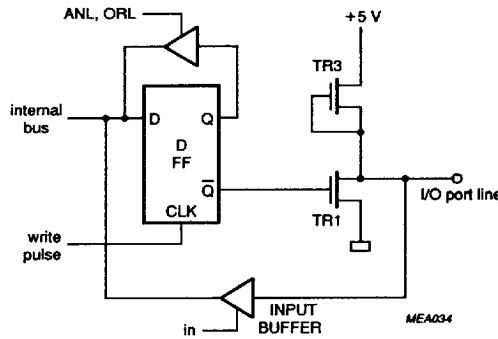

Fig. 14 Open drain I/O with pull-up transistor (option 2).
- **Option 2** OPEN DRAIN I/O WITH PULL-UP; open drain output with pull-up transistor, TR3 (see Fig.14).